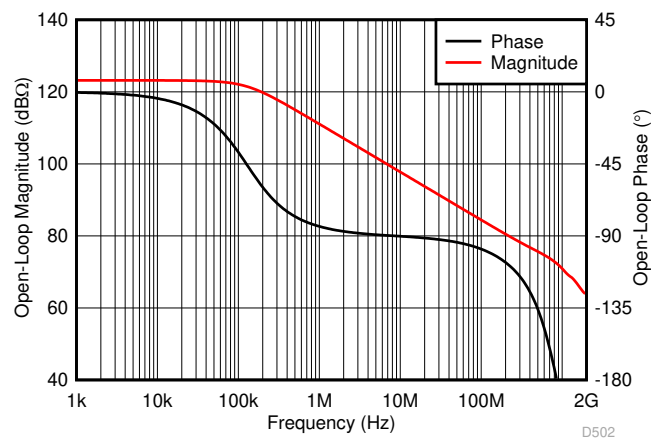

Figure 8-7. Simulated OPS Z_{OL} Gain Magnitude and Phase
One of the first considerations when designing with the OPS is determining the external resistor values as a function of gain in order to hold the best ac performance. The loop gain (LG) of a CFA is set by the internal open-loop transimpedance gain from the inverting error current to the output, and the effective feedback impedance to the inverting input. The nominal internal open-loop transimpedance gain (Z_{OL}) magnitude and phase are shown in Figure 8-7.